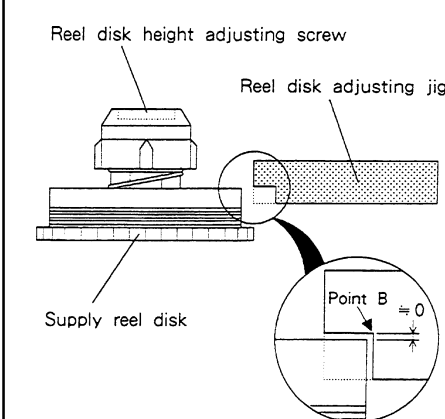

Fig. 2-10-7
- Slowly turn the jig about the point A and make sure that the height of the supply reel disk flange shall agree with the point B on the supply disk adjusting side of the jig (marked SP). (Refer to Fig. 2-10-7.)